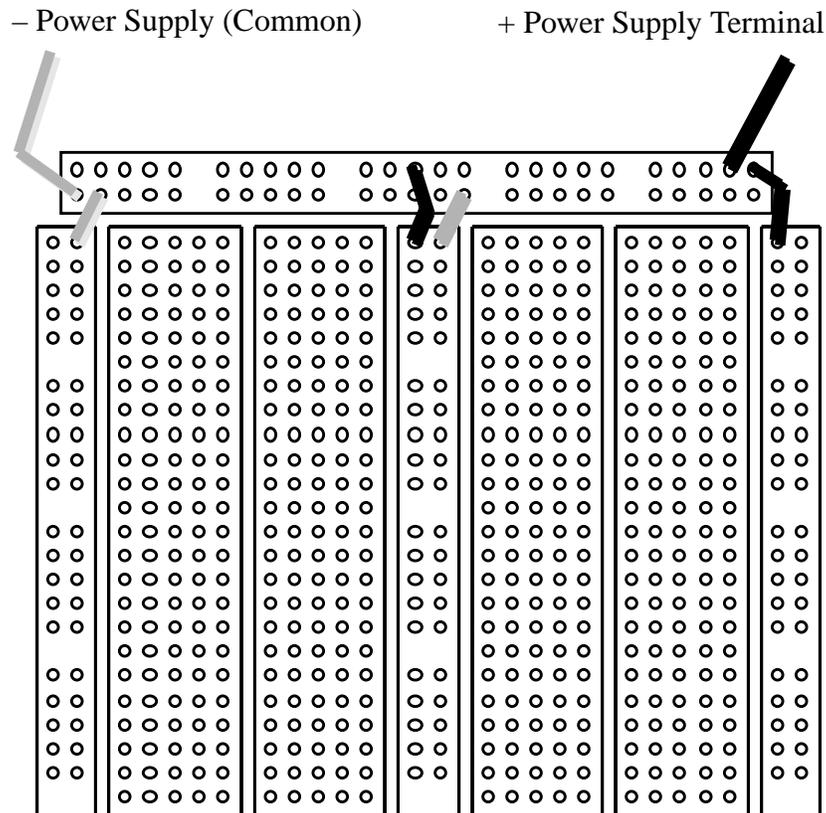
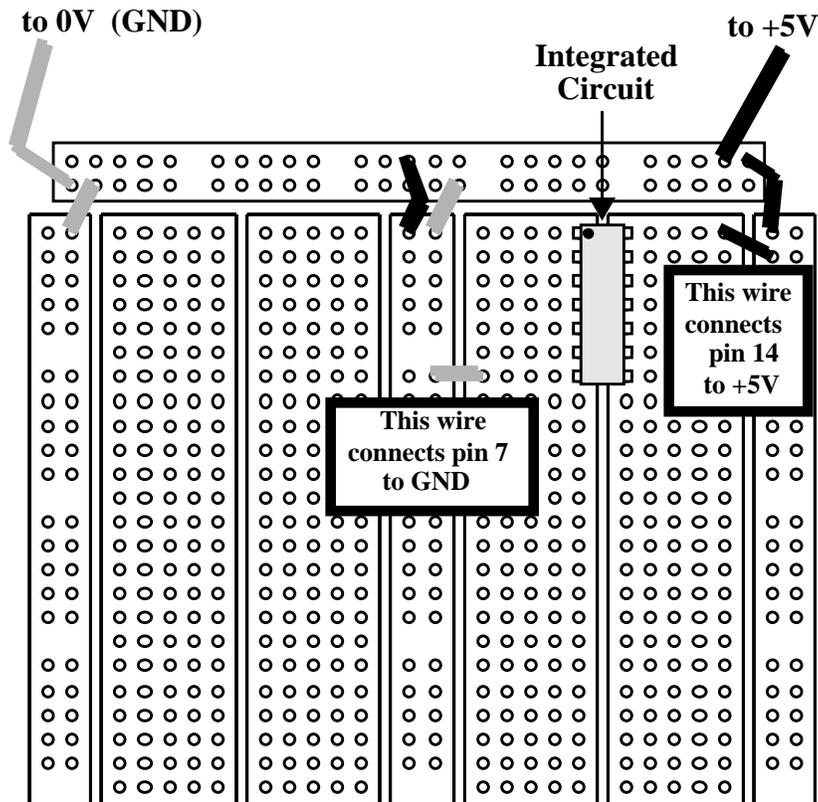

Figure 2.2 Typical protoboard power supply connections.
Figure 2.3 Power supply connections to components in the bay on a protoboard.
build circuits: (1) plug in the electronic components - they go in the bays, and (2) get power and common throughout the circuit. These voltages get wired to the columns. The way you typically wire up the power and common is shown in Fig. 2.2 and Fig. 2.3. Note that this puts a vertical strip of power holes to the right of each bay, and it puts a vertical strip of common holes to the left of each bay. This is the whole idea: make it easy to find a power hole and a common hole no matter where an IC or component is in the bays.